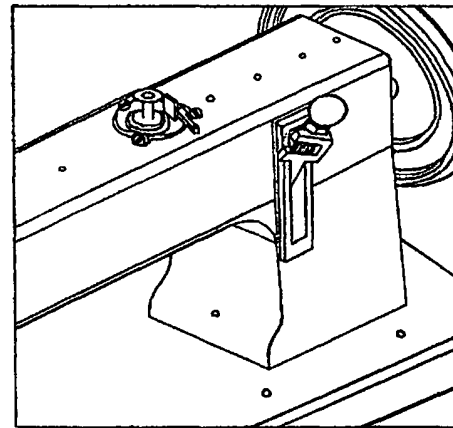

Fig.8
12. ADJUSTMENT OF STITCH LENGTH AND FORWARD/BACKWARD SEWING (Fig.8)
SEWING (Fig.8)